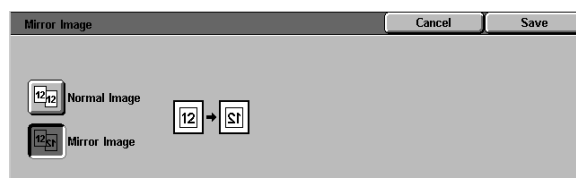

Figure 28: Mirror Image screen
- 2 Touch the **Mirror Image** button to display the Mirror Image screen (Figure 28).